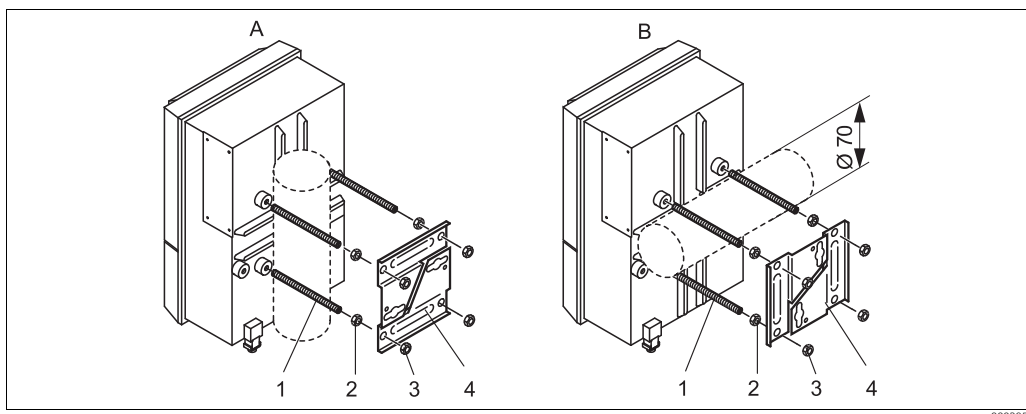

Fig. 10: Post mounting
1. Screw the four securing screws (item 1) into the threaded openings on the transmitter.
2. Counter every securing screw with a nut (item 2).
4. Push the securing plates (item 4) onto the securing screws in accordance with Fig. 10.
5. Screw a nut (item 3) onto each securing screw and tighten it so that the transmitter is securely fastened to the post or pipe.